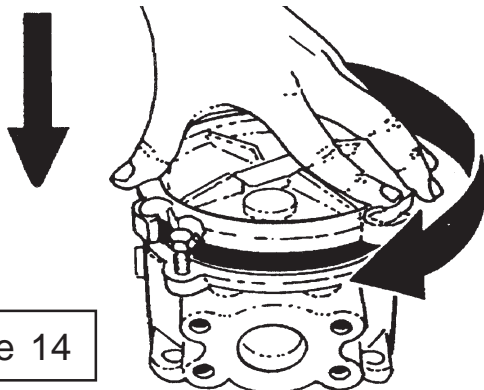

Figure 14
4. Push the filter cover down and slowly twist the filter cover clockwise to lift it off and up, lift it up slowly as there is a spring under this cover (See Figure 14).